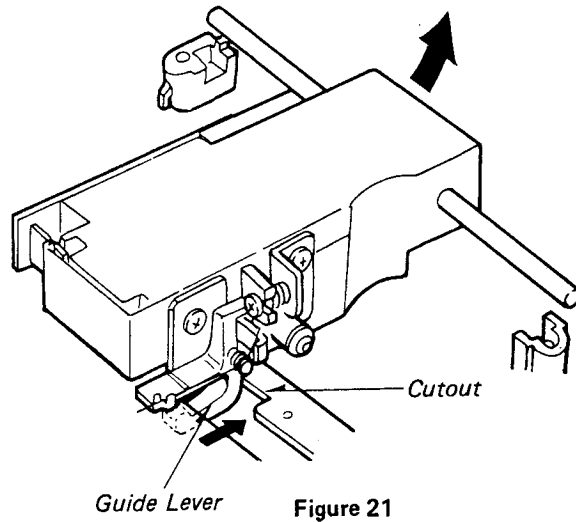

Figure 21
5. Lift up guide shaft side of the pickup slightly and position pickup height adjusting lever to mechanism chassis cutout. Then remove the guide lever by pulling it in the guide shaft side. (Refer to Figure 21)